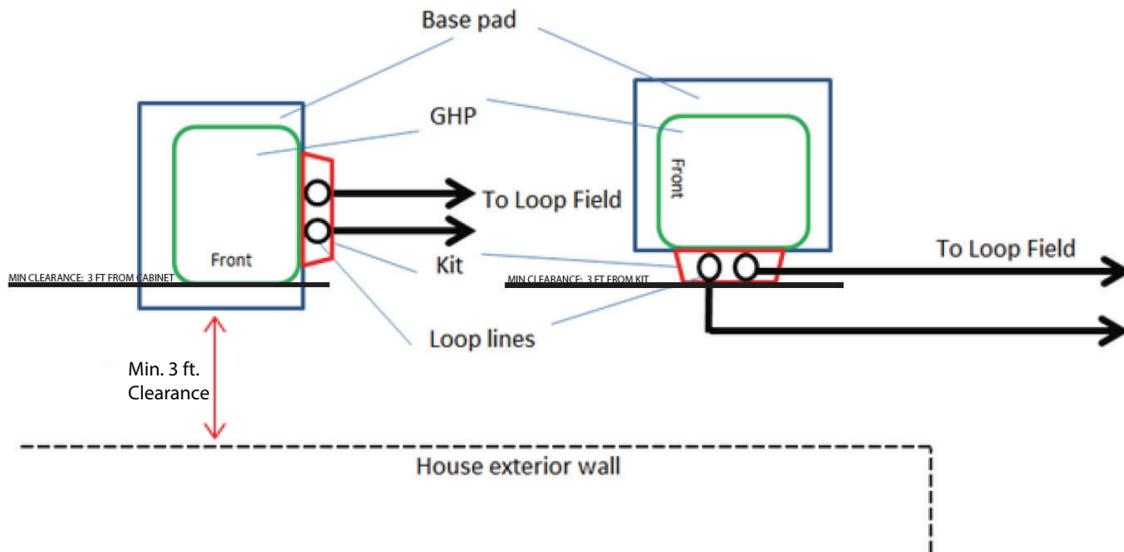

Fig. 1 — Installation Positioning Options (overhead view)
- a. Consider that the loop piping will enter the kit which will be mounted on the right side of the unit (see Fig. 1).
- b. Ensure mounting pad is placed on level, compacted base, directly adjacent to vertical pipe risers (see Fig. 1).
- a. Position the unit on the pad so that the loop piping will enter the bottom of the flow center. The flow center and kit will need to extend over the edge of the pad. (See Fig. 1.) If desired, use heat pump risers in each corner of the GHP to elevate it from the pad to provide for water